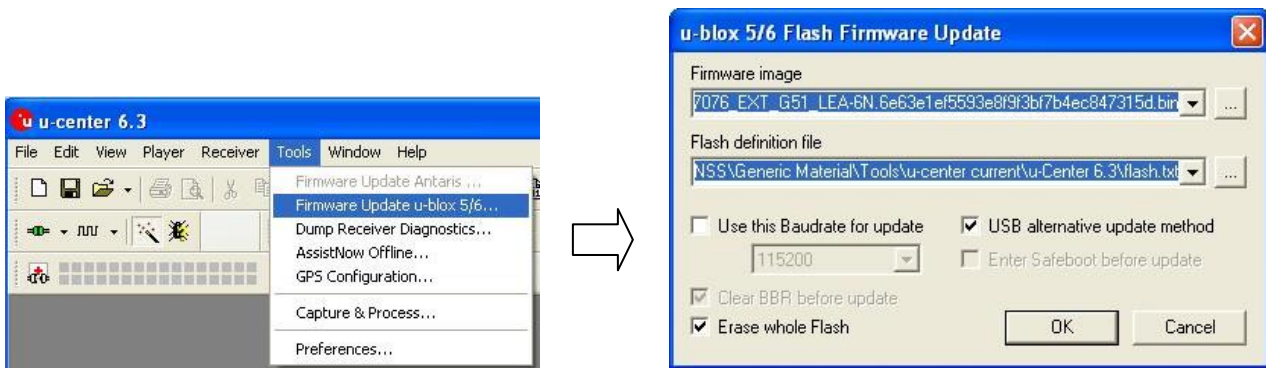

Figure 46: u-blox 5 Firmware update window
- 3) Select the path of the Firmware image and Flash definition file (see Figure 46)